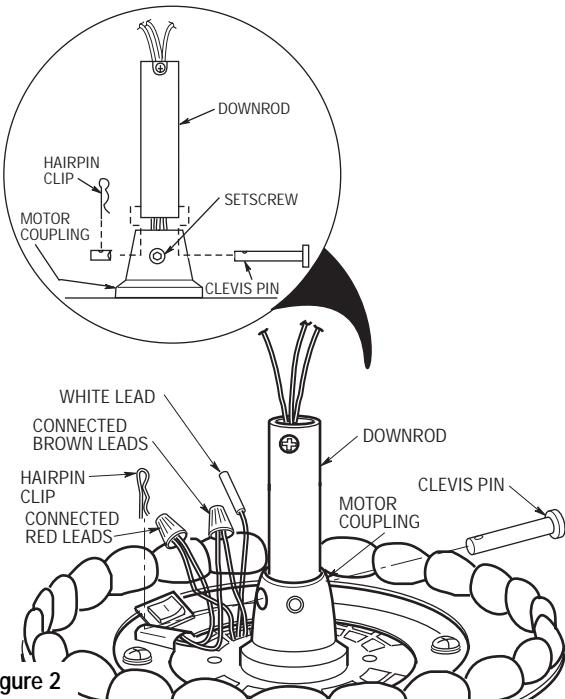

Figure 2
- 3. Separate, untwist and unkink the three motor leads. Route the motor leads through the downrod and seat the downrod in the motor coupling (Figure 2).